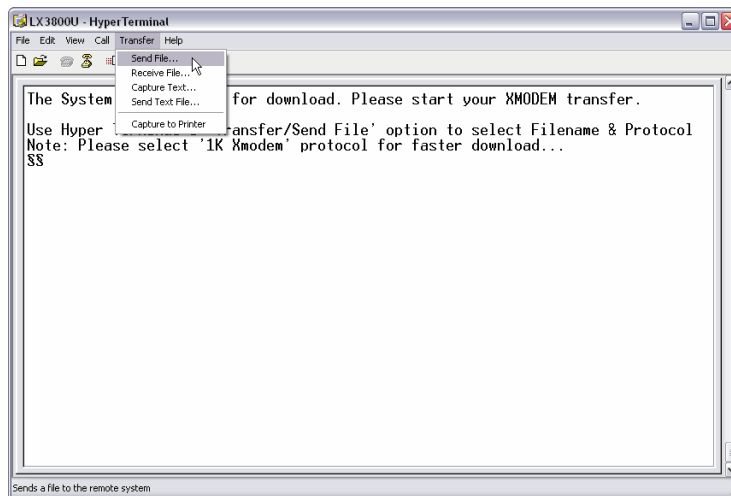

Figure 48. HyperTerminal Window
6. From the HyperTerminal main window, select **Send File** from the Transfer menu, as shown in Figure 48.